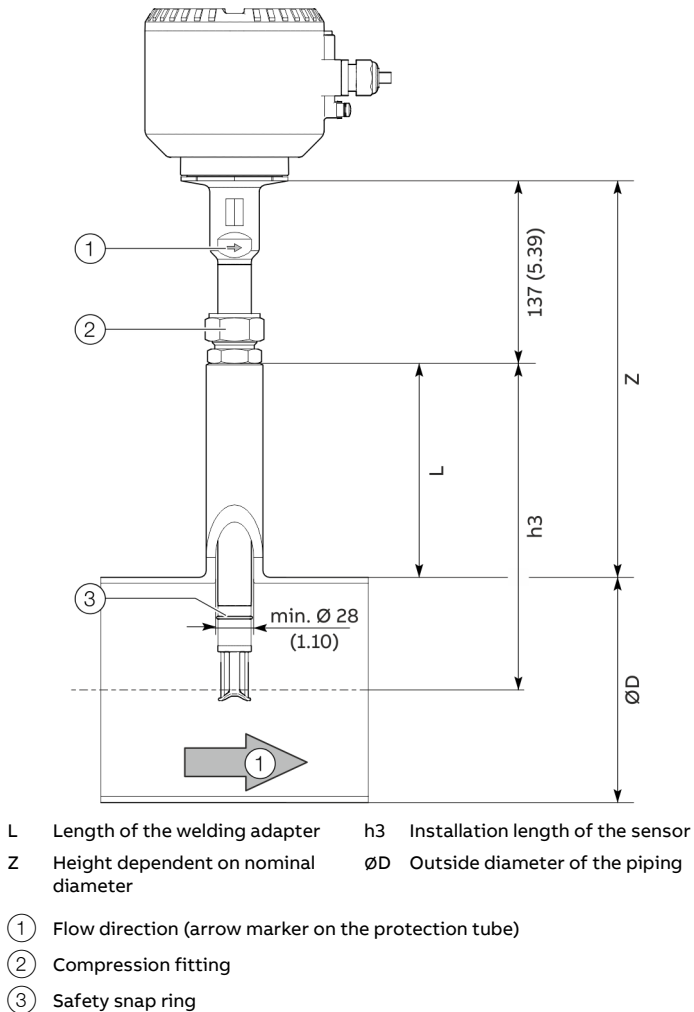

Figure 25: Calculating mounting dimensions
3. Move the sensor to the correct height for the calculated 'Z' dimension (see Figure 25) and secure the compression fitting against shifting by tightening the union nut by hand.